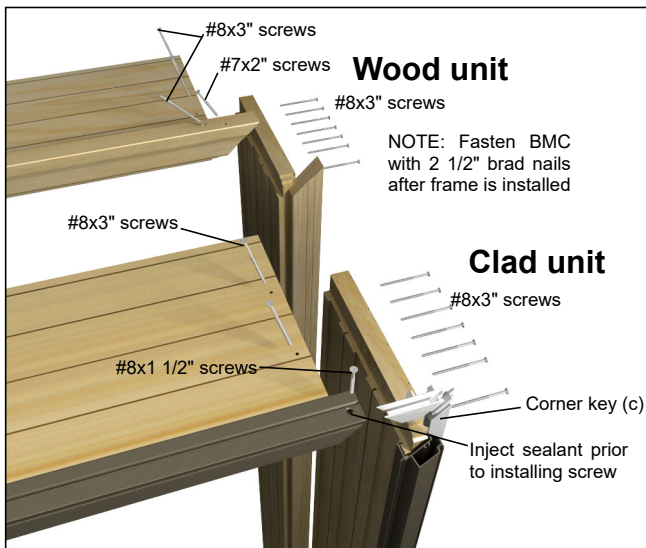

Figure 20
2. Run a 3/16" (5) bead of sealant on all wood joints prior to assembly. Assemble the corner and fasten with the supplied screws through all of the pre-drilled holes. See figure 20 for clad and wood.
3. On clad units, before installing screw into the clad corner joint, inject sealant into the screw hole until you can see squeeze out. See figure 20.